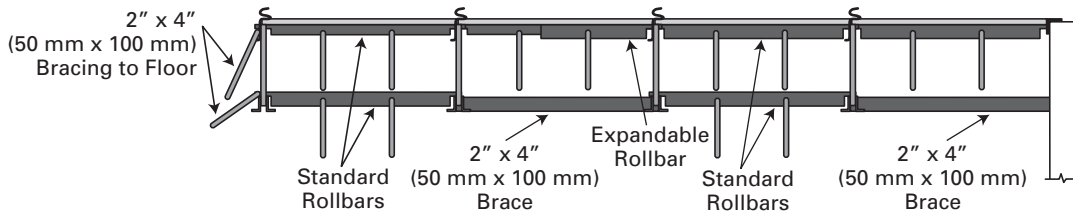

Figure 10
Rollbars inserted into the horizontal slots of the top chord not only provide a platform for the plywood forming, but also act to stabilize the joists. At end bays, or along load bearing surfaces, the Rollbars are inserted into slots in Rollbar angle (RA). If no wall or structural frame is present, brace the top chord to the floor or grade as shown in Figure 10.
To prevent lateral movement of the top chords during construction, the lateral support provided by the regular 4'-1 1/4" (1 251 mm) slotted Rollbar must be carried through to the end walls or beams. When TRB's are used, due to odd spacing of the joists, positive spreaders must be spaced at 1/4 points [i.e. a 2" x 4" (50 mm x 100 mm) cut to exact length]. See Figure 10.